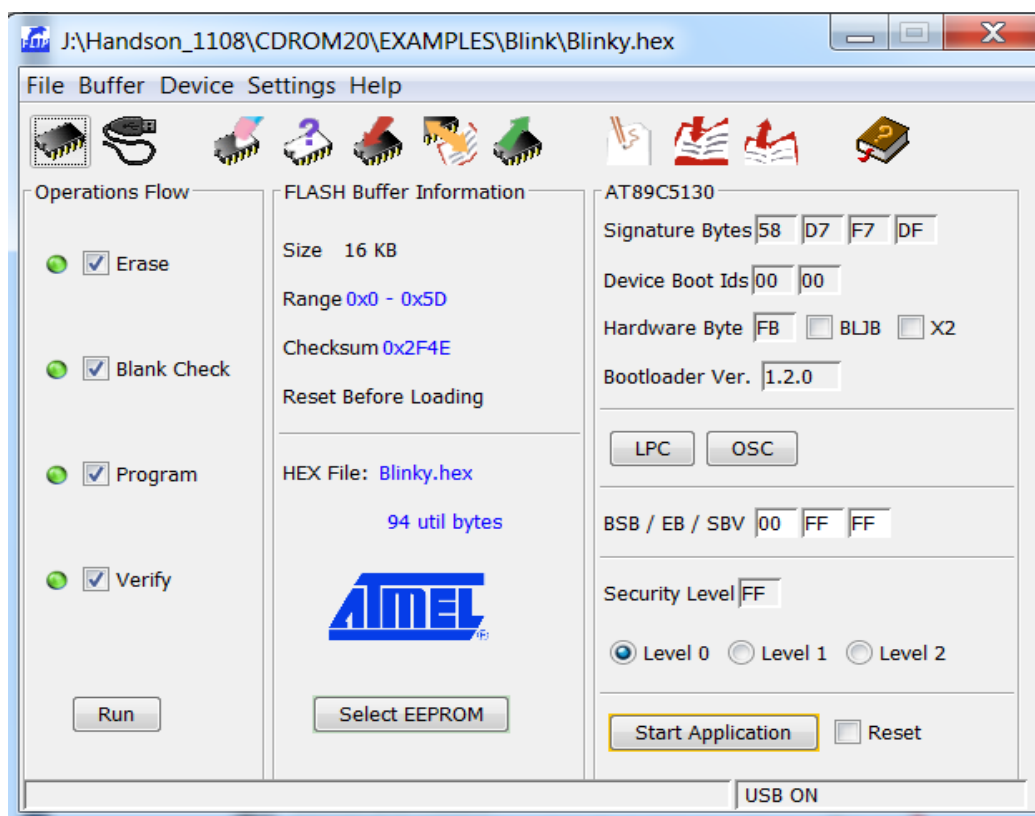

Figure 10.4
- If the connection is successful, the FLIP window should look like Figure 10.4.
7. Ensure the following check boxes are selected in the “Operations Flow” section of FLIP, as in Figure 10.4: